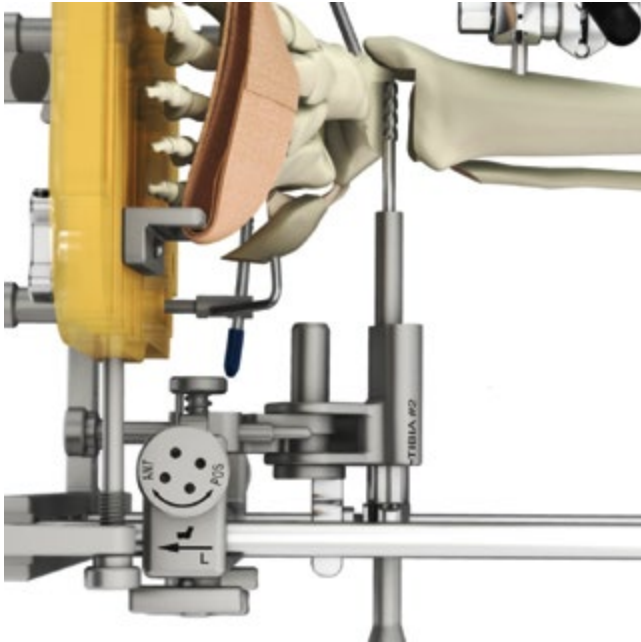

Fig. 62
- Continue to remove the remaining medial portion of the talus in a clockwise direction until the Bur Guard Stop contacts the Cutting Guide (Fig. 62).